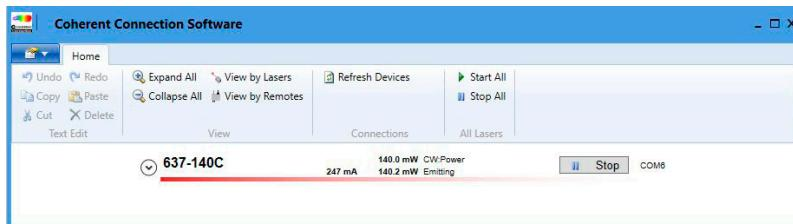

Figure 6-1. Select Operating Mode
2. Attach the communication cable to the laser. The software begins the autofind process to identify the connected laser. Refer to Figure 6-1.